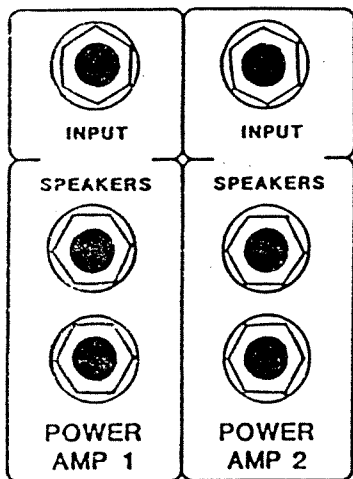
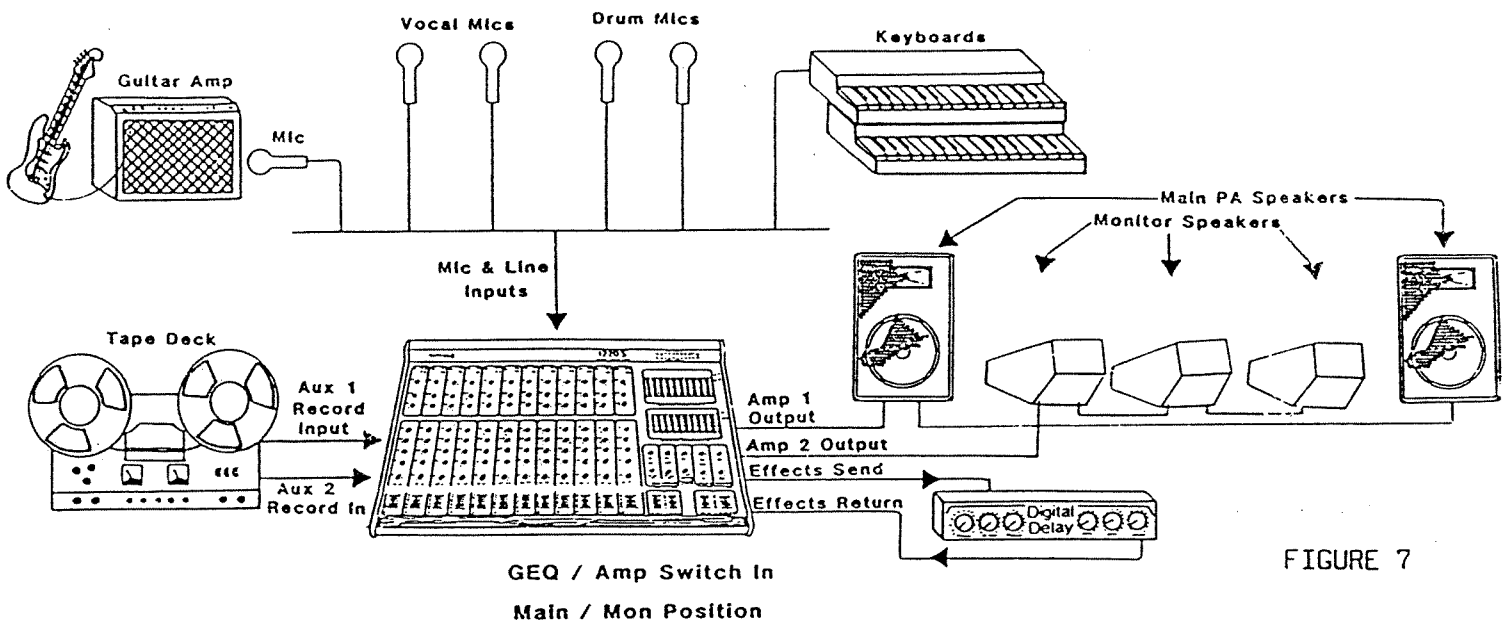

FIGURE 6
FIGURE 7
7. LIVE PA SETUP. Figure 6 illustrates a typical setup of the 1220S for monophonic live sound reinforcement; for an illustration of a typical stereo setup, see Figure 7.
7-2. STEREO PA. With the GEQ/AMP ASSIGN switch in the SUB 1/SUB 2 (left) position, the 1220S may be used as a stereo PA system. Connect the main PA speakers to the POWER AMP 1 and 2 output jacks, as illustrated in Figure 7.